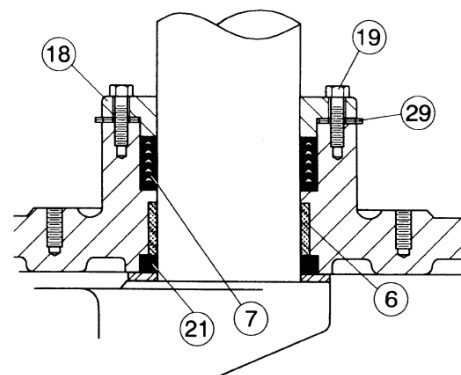

FIGURE 13. PACKING ASSEMBLY
Remove the small round cover on actuator to expose shaft and key. Remove actuator mounting bolts and lift actuator from valve taking care not to lose square key. See Figure 13 and remove gland bolts (19) and lift follower (18) from the valve shaft. Remove old packing (7) with packing hook. Lubricate new packing with FDA grease and set in place one ring at a time taking care not to bend over the lips of the packing rings. Reinstall follower with 2 shims (29) per bolt (3 shims for 12" and larger valves). With valve in the closed position, place the actuator over valve and reinsert key (24). Finally, reinstall cover on actuator indicating "Closed".
Referring to Figure 13, remove follower bolts (19) and side follower (18) up to actuator. Remove packing adapters and rings (7) with packing hook. Cut rings with knife to remove. New packing rings should be cut at a 45 degree slope to allow insertion around the shaft and provide some overlap. Install rings one at a time with the tips down toward the valve. Stagger all joints 180 degrees around the shaft. Pull down follower (18) and reinsert bolts (19) with 2 shims (29) under follower (18). V-packing is pressure assisted and only requires light compression.